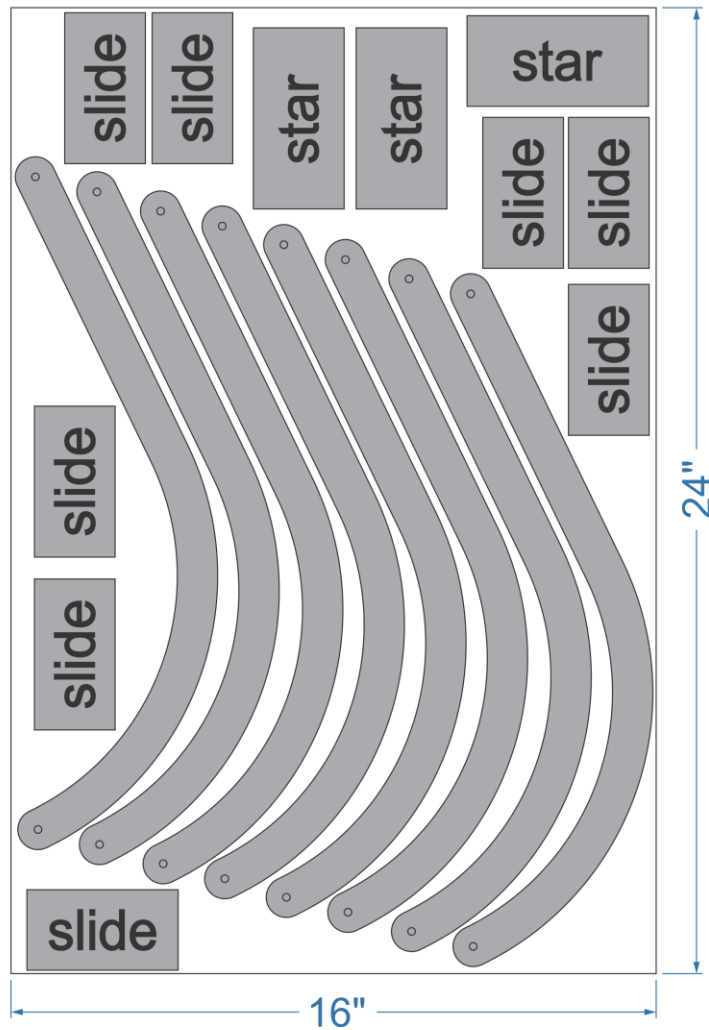

Figure 77: Suggested Metal Sheet Layout
- **Metal Sheet Layout:** Figure 77 shows a suggested layout for maximizing your use of a metal sheet when creating the arms and slide bottoms.